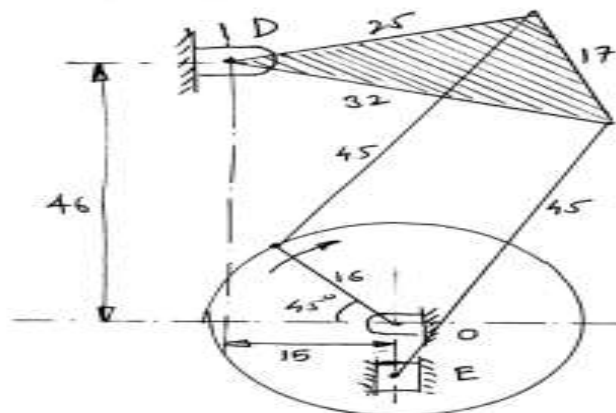

Figure 2
Q.2 Figure 2 represents a mechanism that is used in the head of sewing machine to operate the needle bar. The dimensions of various links are as follows crank OA rotates uniformly in clockwise direction at 50 rpm. For the given condition find out the velocity of the slider and angular velocity of various links. (15)
- Q.3 The mechanism in which the length of various links are as follows $OP=15\text{cm}$, $PQ=30\text{cm}$, $QR=22.5\text{cm}$ and $QS=50\text{cm}$. 'S' is a slider which is constrained to move in a horizontal direction for the given configuration, find the velocity of slider S and angular velocity of links QR and QS when the crank OP is rotating uniformly with a speed of 200 rpm in counter clockwise direction by instantaneous centre method (refer figure 2) 15